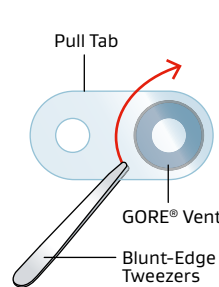

Figure 7: Removing Pull Tab without Slit
- If applicable, carefully remove the pull tab to avoid damaging the vent. Grab the pull tab area close to the part and remove the tab in a circular motion (Figure 7).